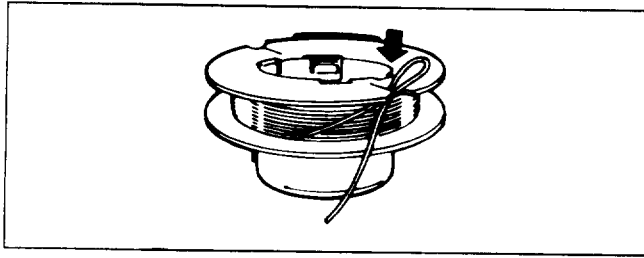

Figure 13
C. Keep line tight on spool by making a hook in the line and secure in groove (Fig. 13).